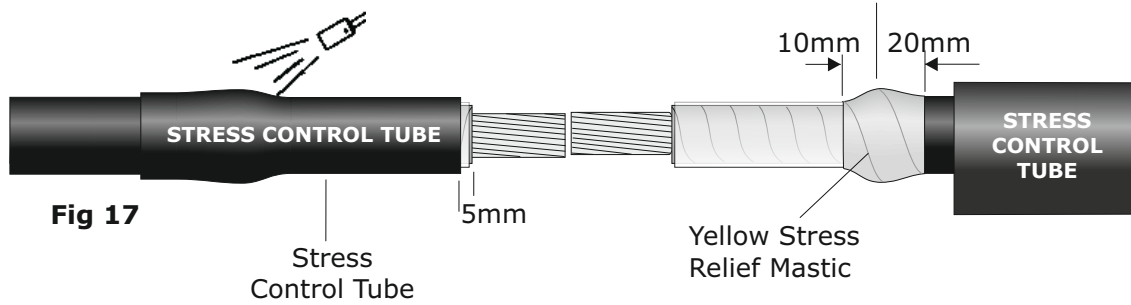

Fig 17
22. Position the stress control tubes as shown in Fig 17 and 18. Starting 5mm from the insulation end and using a soft flame torch, apply heat all around the tubes until fully recovered.